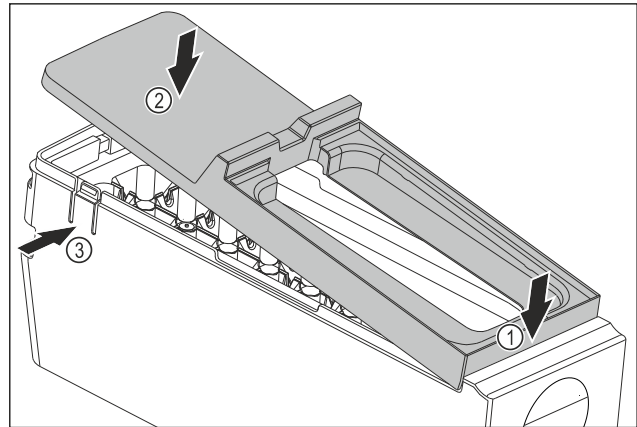

Fig. 137
- ▶ Installing the cover of the EasyTwist-Ice body: Fit the cover at the front. Fig. 137 (1)
- ▶ Lower the cover at the rear. Fig. 137 (2)
- ▷ The cover snaps audibly into place in both tabs Fig. 137 (3).